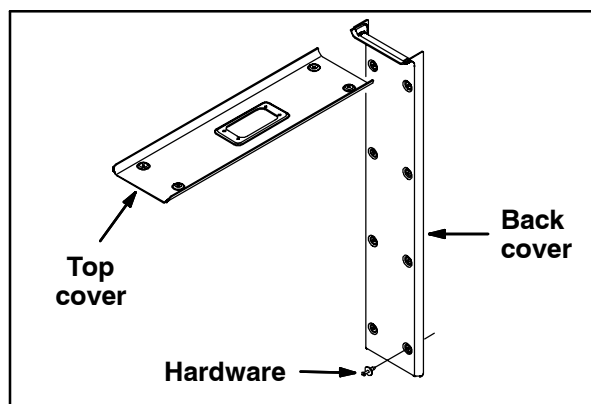

FIG. 1
1. Remove the top cover and back cover from inside the cab. Set the covers and hardware aside. Refer to Fig. 1.